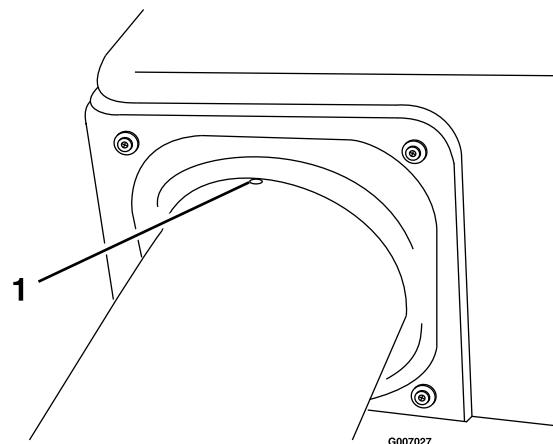

Figure 17
23. Align the dimple on the upper tube with the end of hopper seal and center between the two screws as shown in Figure 17.